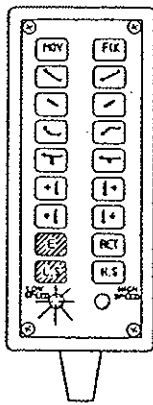

Figure 2-22. Speed Control Function
e. Speed Selection. The speed of the top slide movement can be changed with the High Speed/Low Speed functions of the pendant control. See figure 2-22. (refer to paragraph 2-2. a). Low speed should be selected for precise positioning when using the Microscope mode on the foot control.